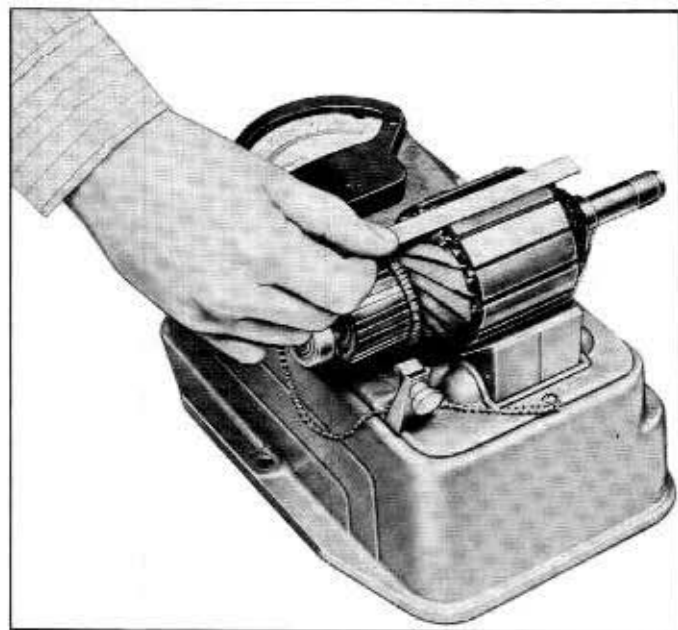

Fig. 9-8—Testing Armature Windings for Short Circuits (60C-7667)
4. Check armature on a test growler for shorted windings. Place the armature on the growler and with the unit turned on, place a hacksaw blade within a fraction of an inch of the armature core slot as shown in figure 9-8. A short circuit in the armature windings or between commutator segments will be indicated if the hacksaw blade vibrates or is drawn to the armature. Replace armature if windings are shorted.